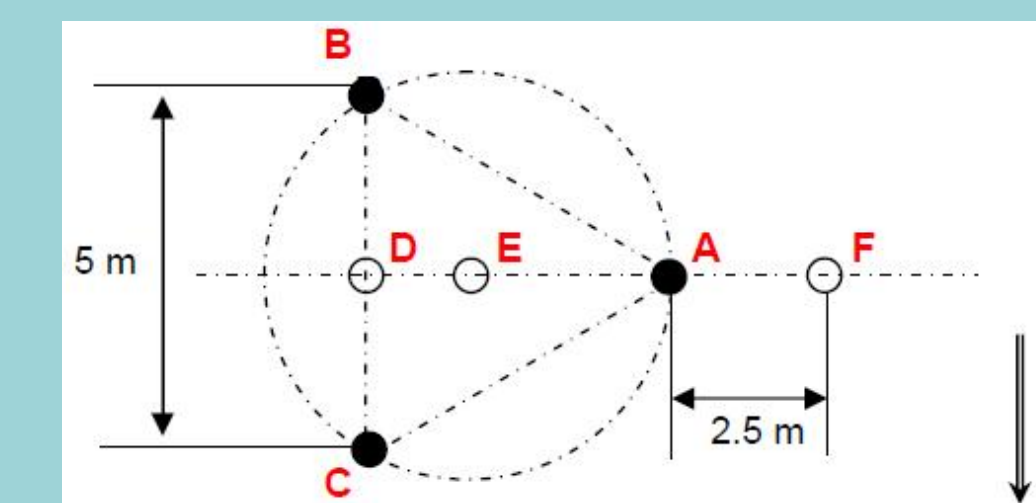

Fig. 4 : Borehole geometry
- 3 boreholes (A, B, C) of 200 m depth (Fig.4)